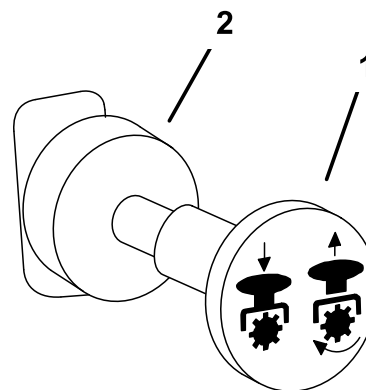

Figure 11
3. Move the PTO (power take off) switch to the Off position (Figure 11).
1. Push the PTO to the off position (Figure 11).